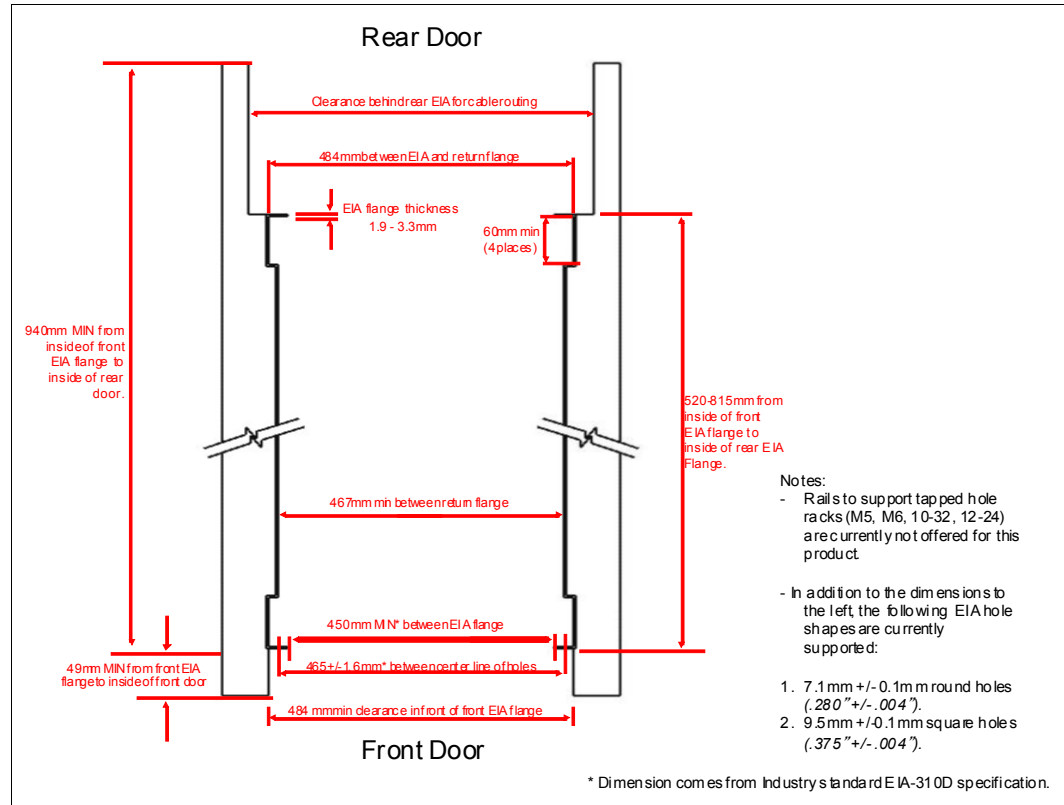

Figure 1-9 Rack specification dimensions - top front view
- The vertical distance between the mounting holes must consist of sets of three holes spaced (from bottom to top) 15.9 mm (0.625 in.), 15.9 mm (0.625 in.), and 12.67 mm (0.5 in.) on-center, making each three-hole set of vertical hole spacing 44.45 mm (1.75 in.) apart on center. Rail-mounting holes must be 7.1 mm $\pm$ 0.1 mm (0.28 in. $\pm$ 0.004 in.) in diameter. Figure 1-9 shows the top front specification dimensions.